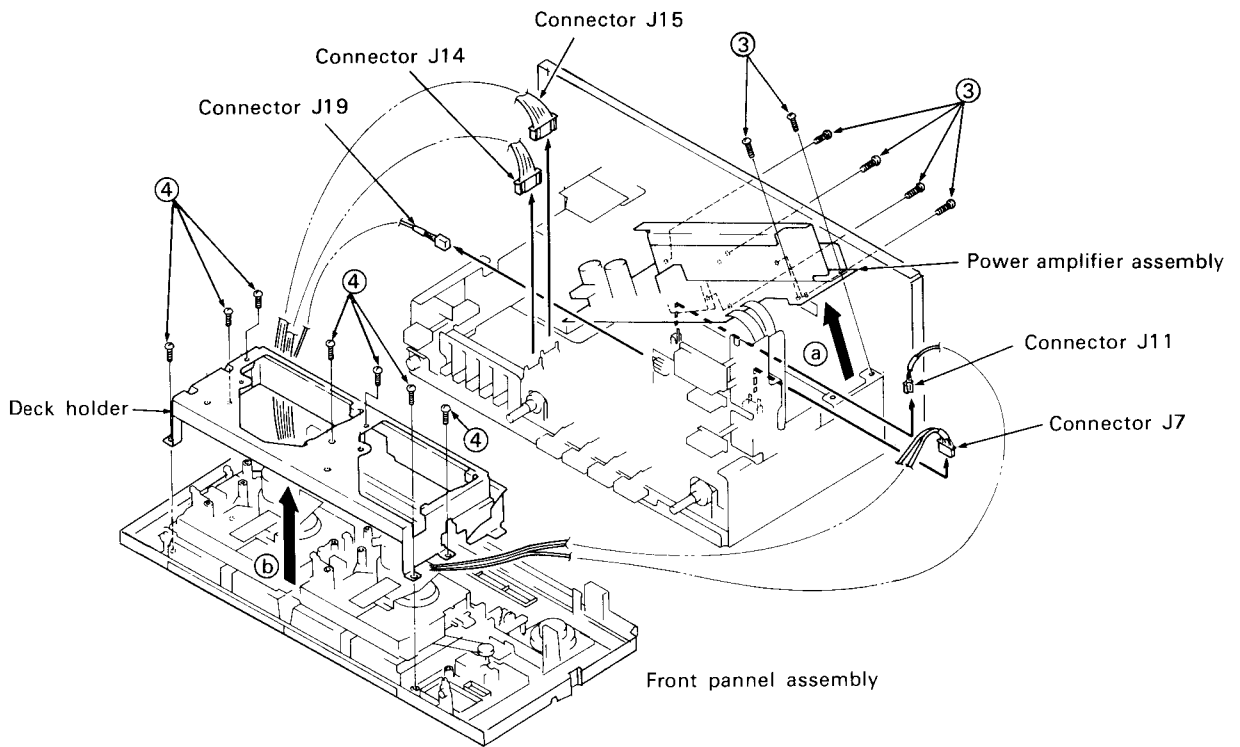
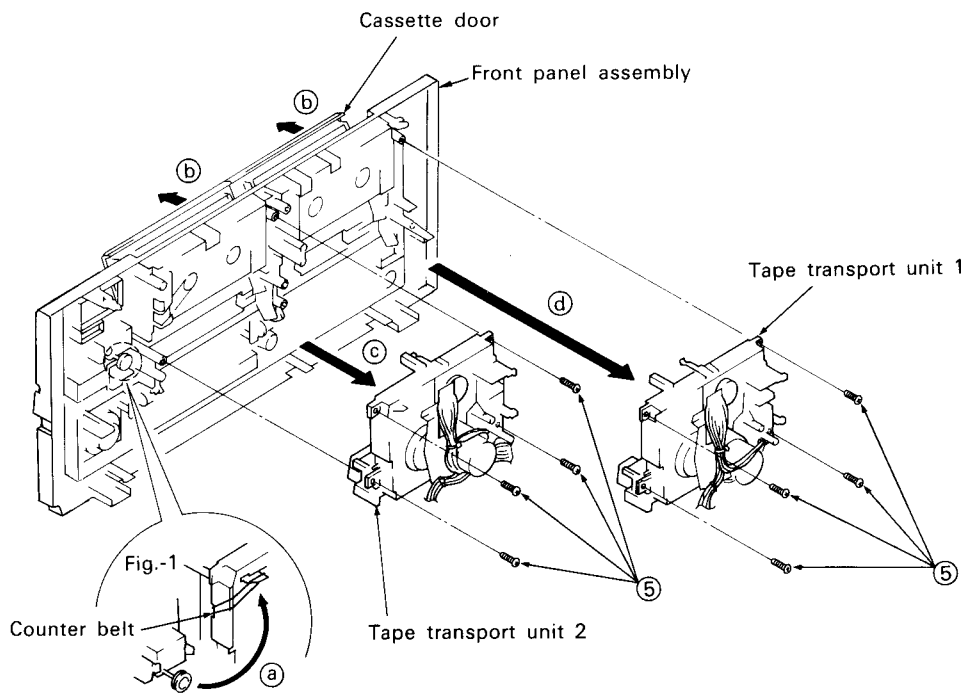

Fig. 3-2
Fig. 3-3
1. Remove 7 pieces of screw ①.
3. Remove 2 pieces of screw ②, and 1 piece of nut ②.
5. Remove 6 pieces of screw ③, and enable the Power amplifier assembly to move upward (See Fig. 3-2)
7. Remove 7 pieces of screw ④, and remove Deck holder (with Synchro plate).
8. Open Cassette door. (See Fig. 3-3)
9. Remove 4 individual pieces of screw ⑤.